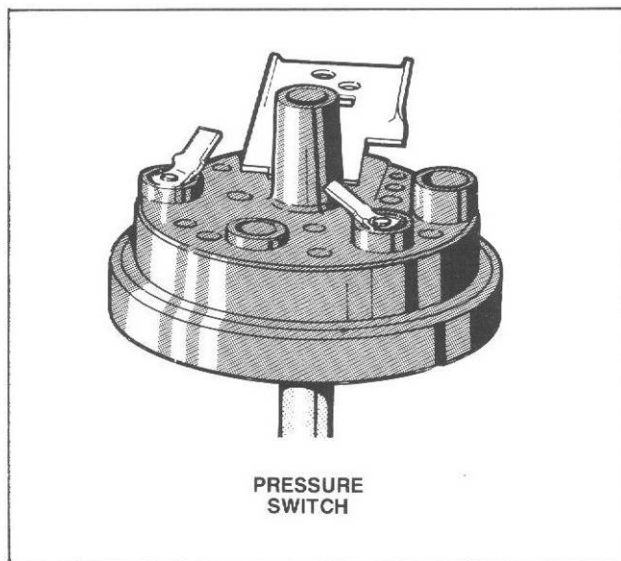

Figure 52
50. PRESSURE SWITCH (Refer to Figure 52)